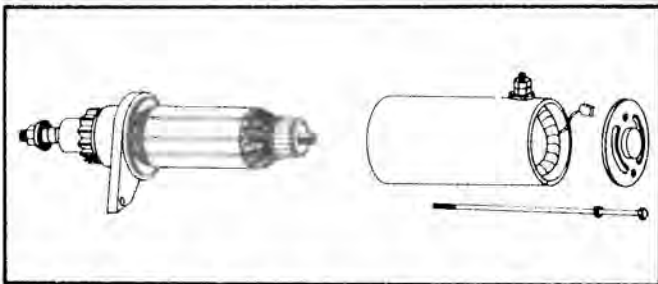
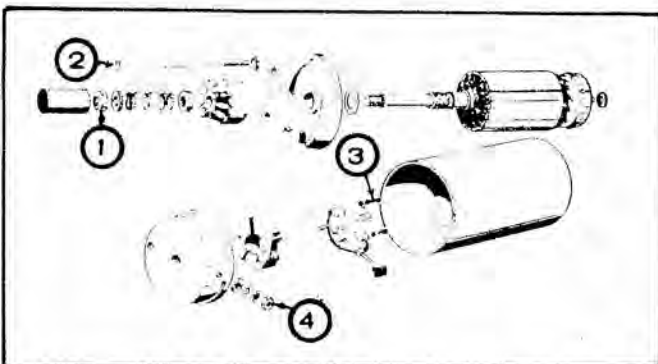

FIGURE 16. STARTER DISASSEMBLY (SPEC. A)
FIGURE 16A. STARTER DISASSEMBLY (SPEC. B)
STARTER DISASSEMBLY (Figure 16, Spec A; Figure 16A, Spec B)
2. Torque bolts (Figure 16(a), item 3) to a value of 3-3-1/2 ft-lbs.
3. Torque nut (Figure 16(a), item 4) to a value of 4-5 ft-lbs.
5. Torque stop nut (Figure 16(a), item 1) to a value of 20-25 ft-lbs. Hold armature in a vise.
6. Torque thru-bolts (Figure 16(a), item 2) to a value of 4-1/2-6 ft-lbs.